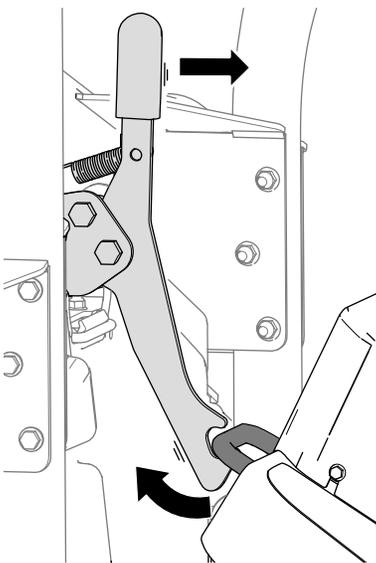

Figure 38
1. Release the cutting-unit latch from the tie-down bracket (Figure 38) by slightly rotating the cutting unit slightly forward (refer to Figure 36) and pulling the latch handle forward.